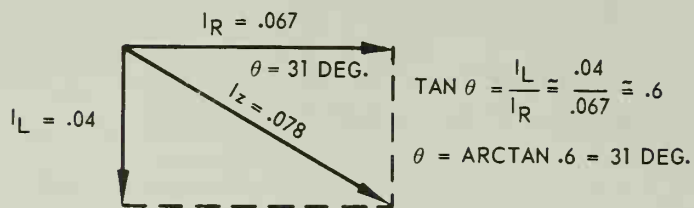

Fig. 8-21. The vector diagram for RL parallel problem described in text.
3. Draw according to any scale as in Fig. 8-21. I_R is in phase with circuit voltage. It is drawn horizontally as a reference. I_L is drawn downward since it is lagging by 90 deg.